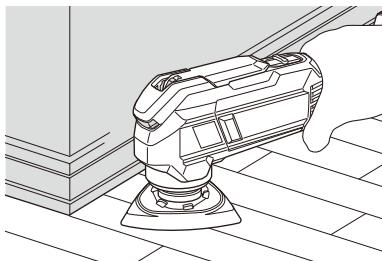

Fig. 15
(2) Lightly place the application tool on the material and move the application tool back and forth at a pace where the movement isn't slowed. (**Fig. 15**)